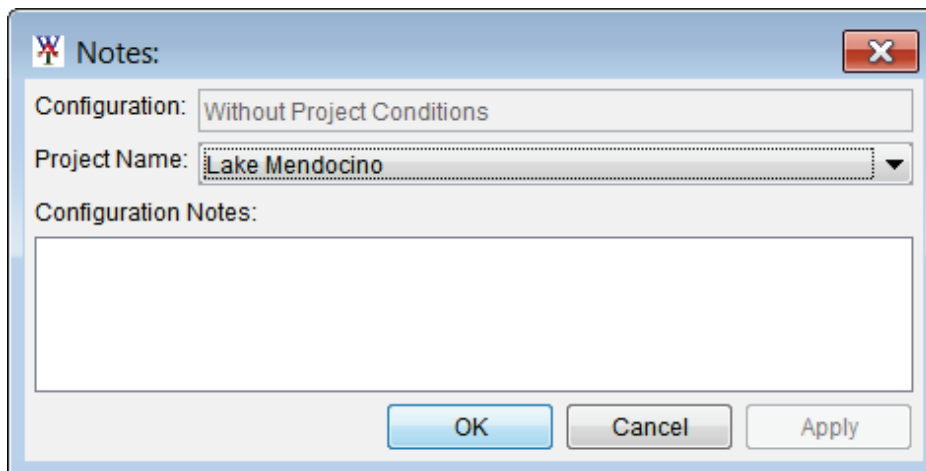

Figure G.10 Notes: Dialog Box - Reservoir
2. The **Notes:** dialog box (Figure G.10) will open. Enter information in the **Configuration Notes** box that describes the selected reservoir for the current schematic.